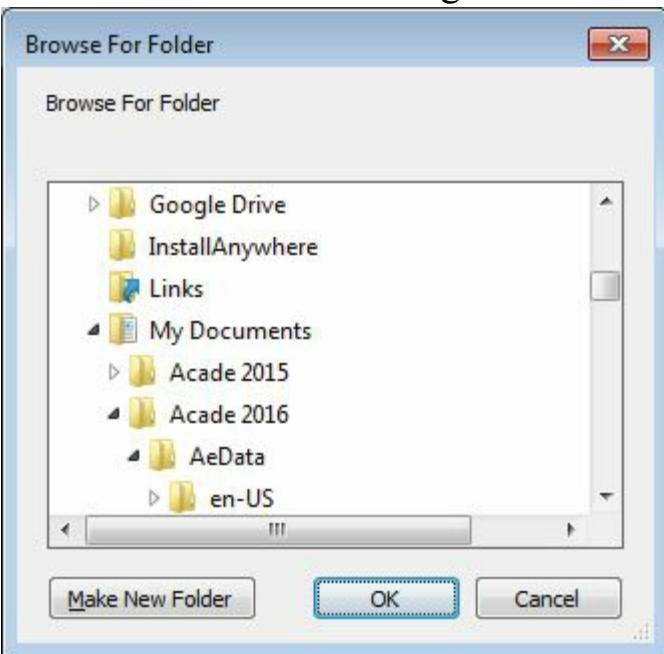

Figure-6. Browse For Folder dialog box
- Click on the **Browse** button next to **Location** edit box to change the location of the project files. The **Browse For Folder** dialog box will be display; refer to Figure-6.